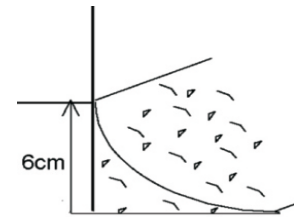

Fig. 4
**6. Layer of masonry sand on the inside of the pool (Fig. 4)**